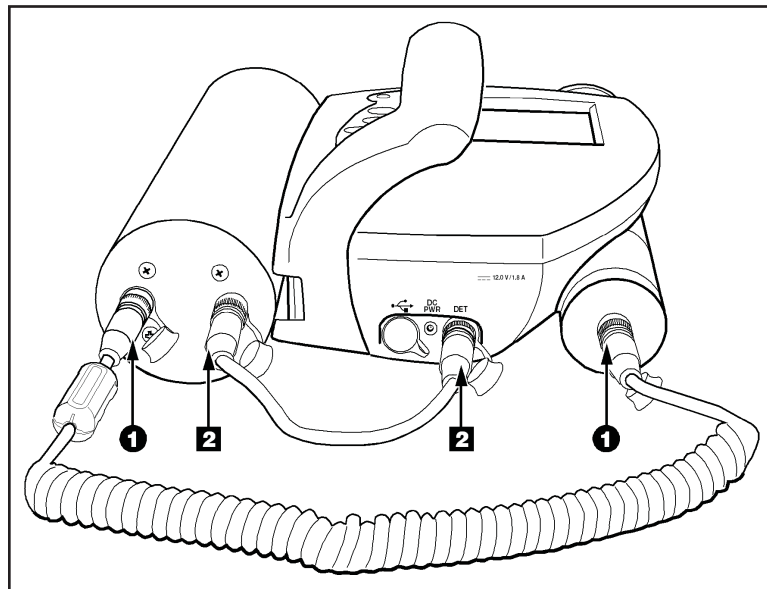

Figure 111 Cabling for Both Probes
2. Connect the other end of the coiled cable to the single connector on the Gamma Probe ❶.
3. Connect the short cable between the Neutron Probe’s INST connector ❷ and the InSpector’s DET connector ❷ (Figure 111).